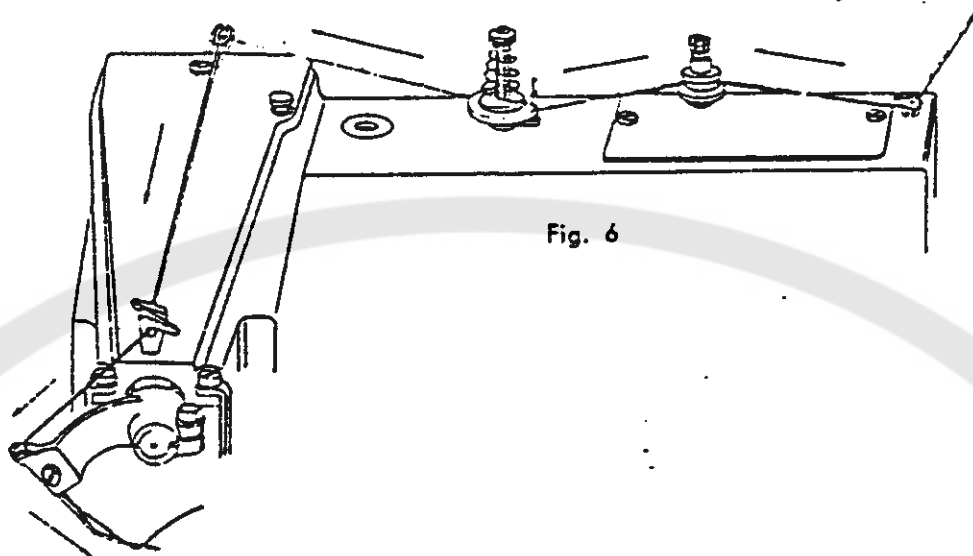

Fig. 6
8. Threading Machine (Fig. 6)
See threading chart Fig. 6